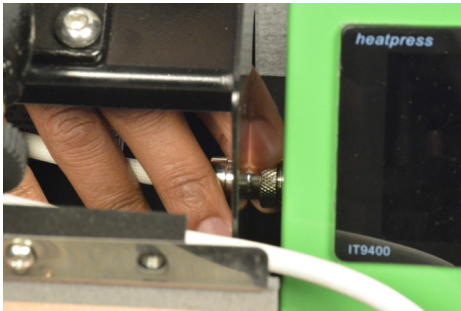

FIG 1: Disconnect the power cable before removing the fitting.
- 1) Turn the collar on the power cable to loosen the connection, then unplug the connector cable from the control panel housing (Fig 1).